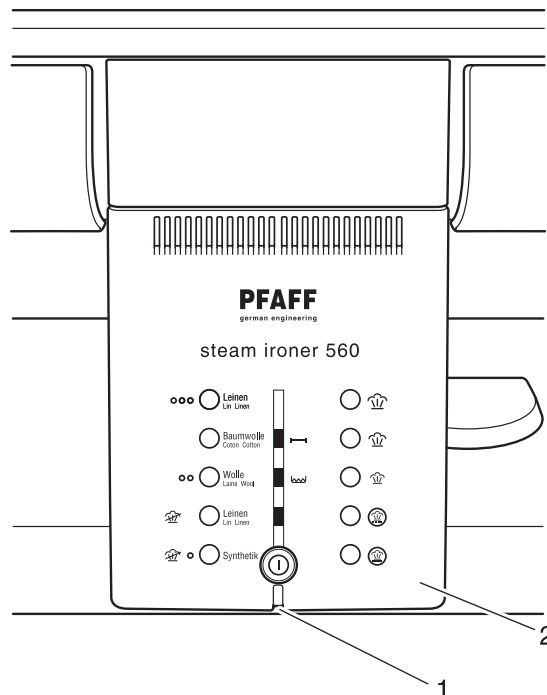

Fig. 16
- Remove screw 1 from control panel 2 (fig. 16).
- Secure control panel 2 with screw 1 (fig. 16).